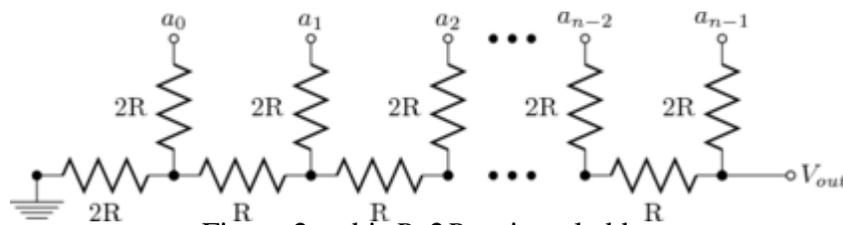

Figure 2:  $n$ -bit  $R-2R$  resistor ladder
2. An  $R-2R$  ladder, as shown in Figure 2, is a simple and inexpensive way to perform digital-to-analog conversion using cascaded precision resistor networks.
A basic  $R-2R$  resistor ladder network is shown in Figure 2. Bits  $a_{n-1}$  (most significant bit, MSB) through  $a_0$  (least significant bit, LSB) are driven from digital logic gates. Ideally, the bit inputs are switched between  $V = 0$  (logic 0) and  $V_{ref}$  (logic 1). The  $R-2R$  network causes these digital bits to be weighted in their contribution to the output voltage  $V_{out}$ . Depending on which bits are set to 1 and which to 0, the output voltage ( $V_{out}$ ) will have a corresponding stepped value between 0 and  $V_{ref}$  minus the value of the minimal step, corresponding to bit 0. The actual value of  $V_{ref}$  (and the voltage of logic 0) will depend on the type of technology used to generate the digital signals.